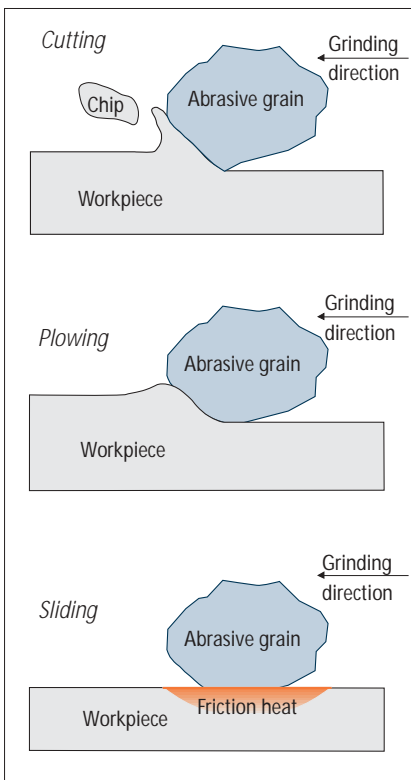

Figure 2. Different conditions during grinding (highly schematic). Cutting angles are generally negative.
- The cutting tool has an irregular cutting geometry and the abrasive grains are irregularly placed, which means that cutting, plowing and sliding will occur, see figure 2.